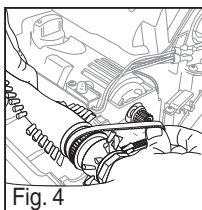

Fig. 4
- 4) Thread new belt around motor shaft and then the brush roll (Fig. 4).